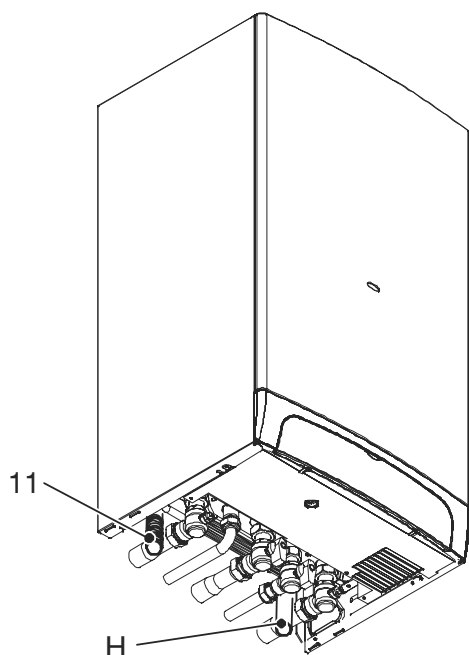

Fig. 6.4
- 8 Connect the pipe H (Fig. 6.4) from the pressure relief valve to the safety discharge pipe-work.
- 9 Fit the condensate drain 11 (Fig. 6.4) in the air brake connected to the drainage pipework. See also section 5.7 in this manual.